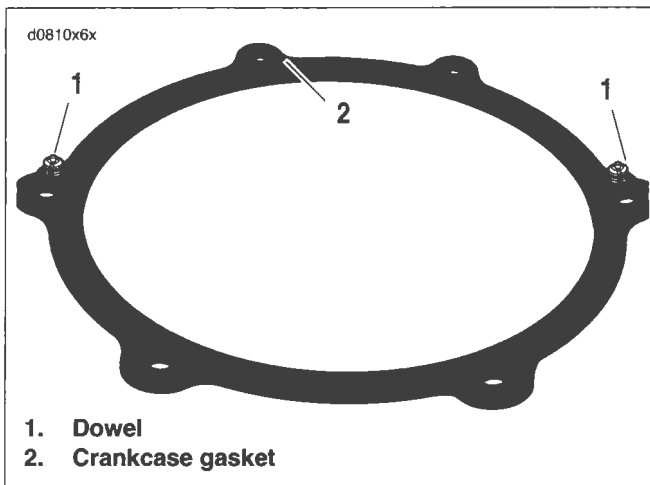

Figure 6-5. Crankcase Gasket
See Figure 6-5. In next step, be sure dowels (1) in crankcase gasket (2) engage holes in crankcase.